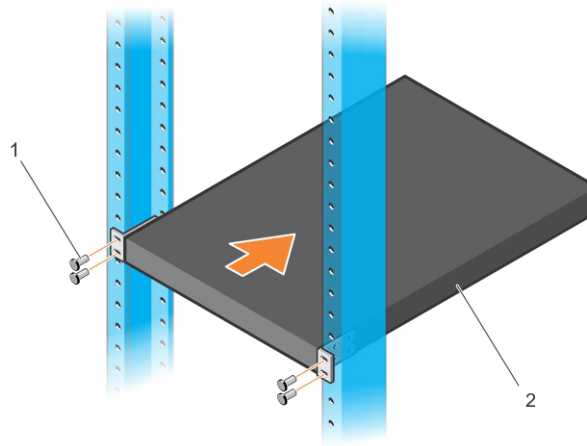

Figure 7. Mounting N20xx in 2-Post Rack
5. Secure the switch to the rack using the rack bolts, or cage nuts and cage-nut bolts with washers. Tighten the bolts on the bottom of each bracket flange first; then tighten the bolts on top as in item 1 in Figure 7. The rack bolts are provided with the mount brackets and the cage nuts and cage-nut bolts are provided with the rack.